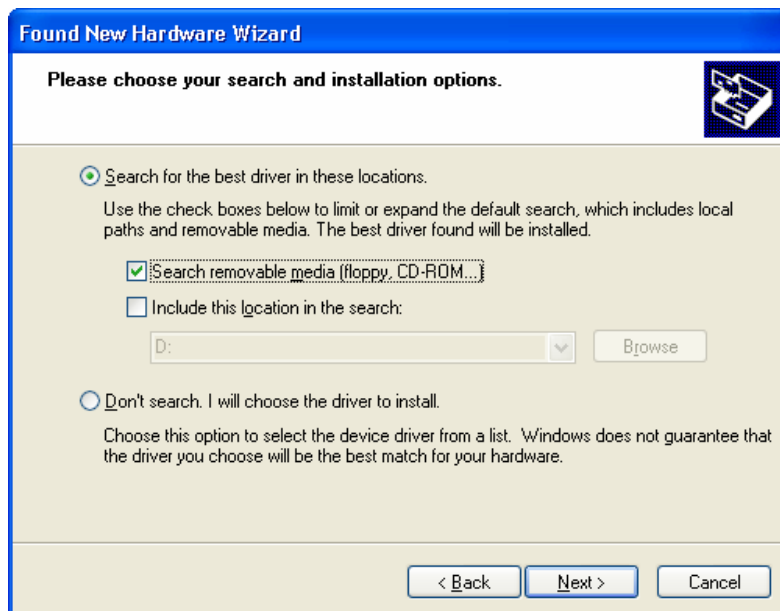

Figure 3. Found New Hardware Wizard Window #3
- At the “Found New Hardware Wizard” window (Figure 3), select “Search for the best driver in these locations” followed by “Search removable media (floppy, CD-ROM...)”. Click Next.
6. At the next "Found New Hardware Wizard" window (Figure 3), select "Search for a suitable driver for my device (recommended)" as shown below, then click next.